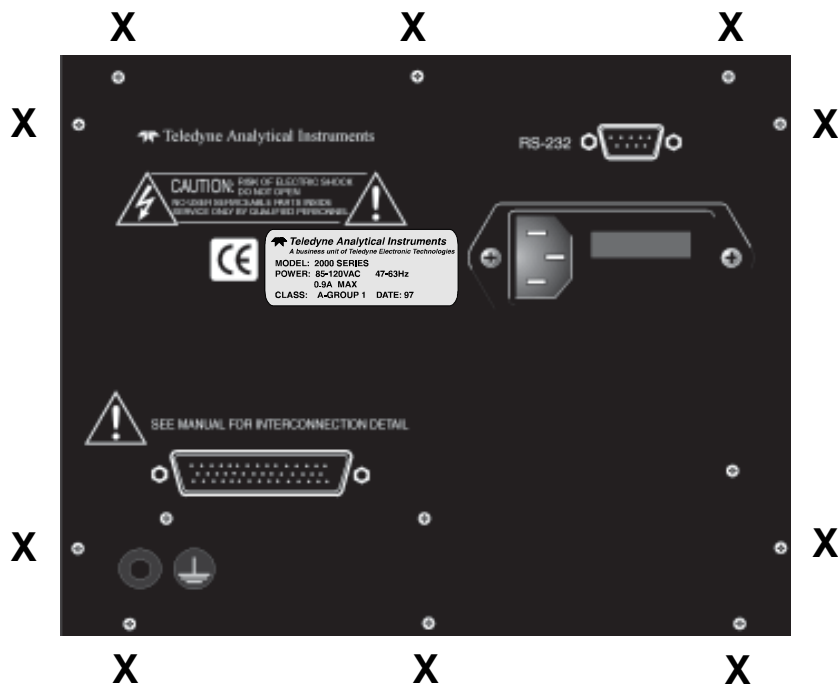
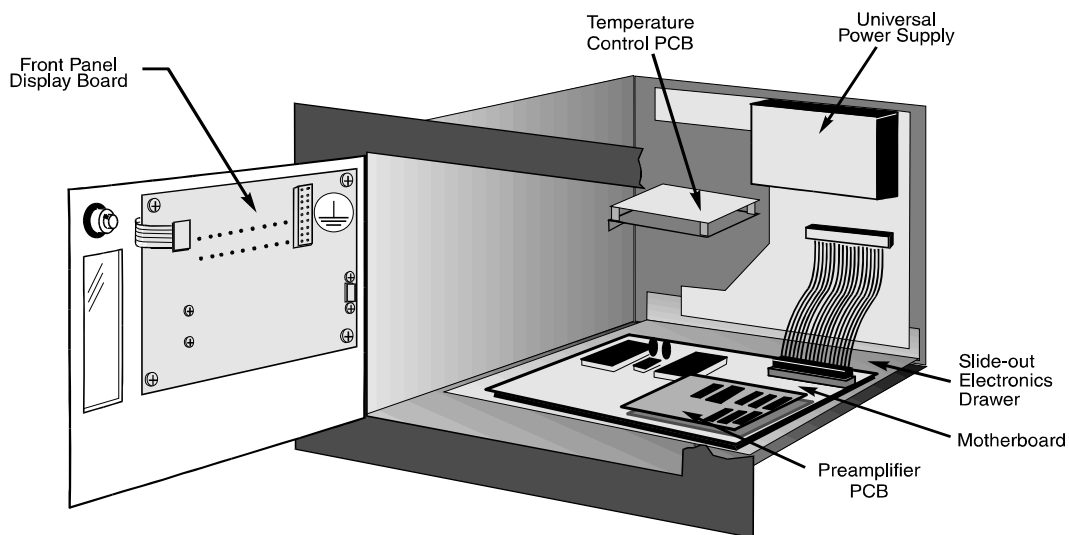

Figure 5-3: Rear Panel Retaining Screws
Figure 5-4: Locations of Printed Circuit Board Assemblies
The Cell Compartment and Front Panel PCBs are accessed by unlatching and swinging open the front panel, as described earlier. The balance of the PCBs are accessed by removing the rear panel retaining screws and sliding out the entire subassembly. See Figure 5-3, below. The major electronic components locations are shown in Figure 5-4 (with Cell Compartment removed for clarity).
- e. Leave the electrical connections connected at the Cell. Unlace the cabling, and unplug the grey Cell cable at the Preamplifier PCB connector, J3. (See Figure 5-4, and/or drawings at the rear of this manual.) The Preamplifier PCB can be more easily accessed by removing the analyzer's rear panel. (See Section 5.5.)
- (1) To remove the Heater, use a  $1/16$  " Allen wrench to loosen the Thermistor set screw. Then, grasp BOTH Heater wires firmly, and pull the Heater slowly out of the Heater Block, breaking the silicone seal. Do not allow any foreign matter to enter the empty duct.
- (2) To remove the Thermistor, grasp BOTH Thermistor wires firmly, and pull the Thermistor slowly out of the Heater Block, breaking the silicone seal. Do not allow any foreign matter to enter the empty duct.
- e. Undo the cable lacing and separate the Heater/Thermistor wires. Then, disconnect the wires from TS1 on the Temperature Control Board. (See Figures 5-4 and 5-7.)